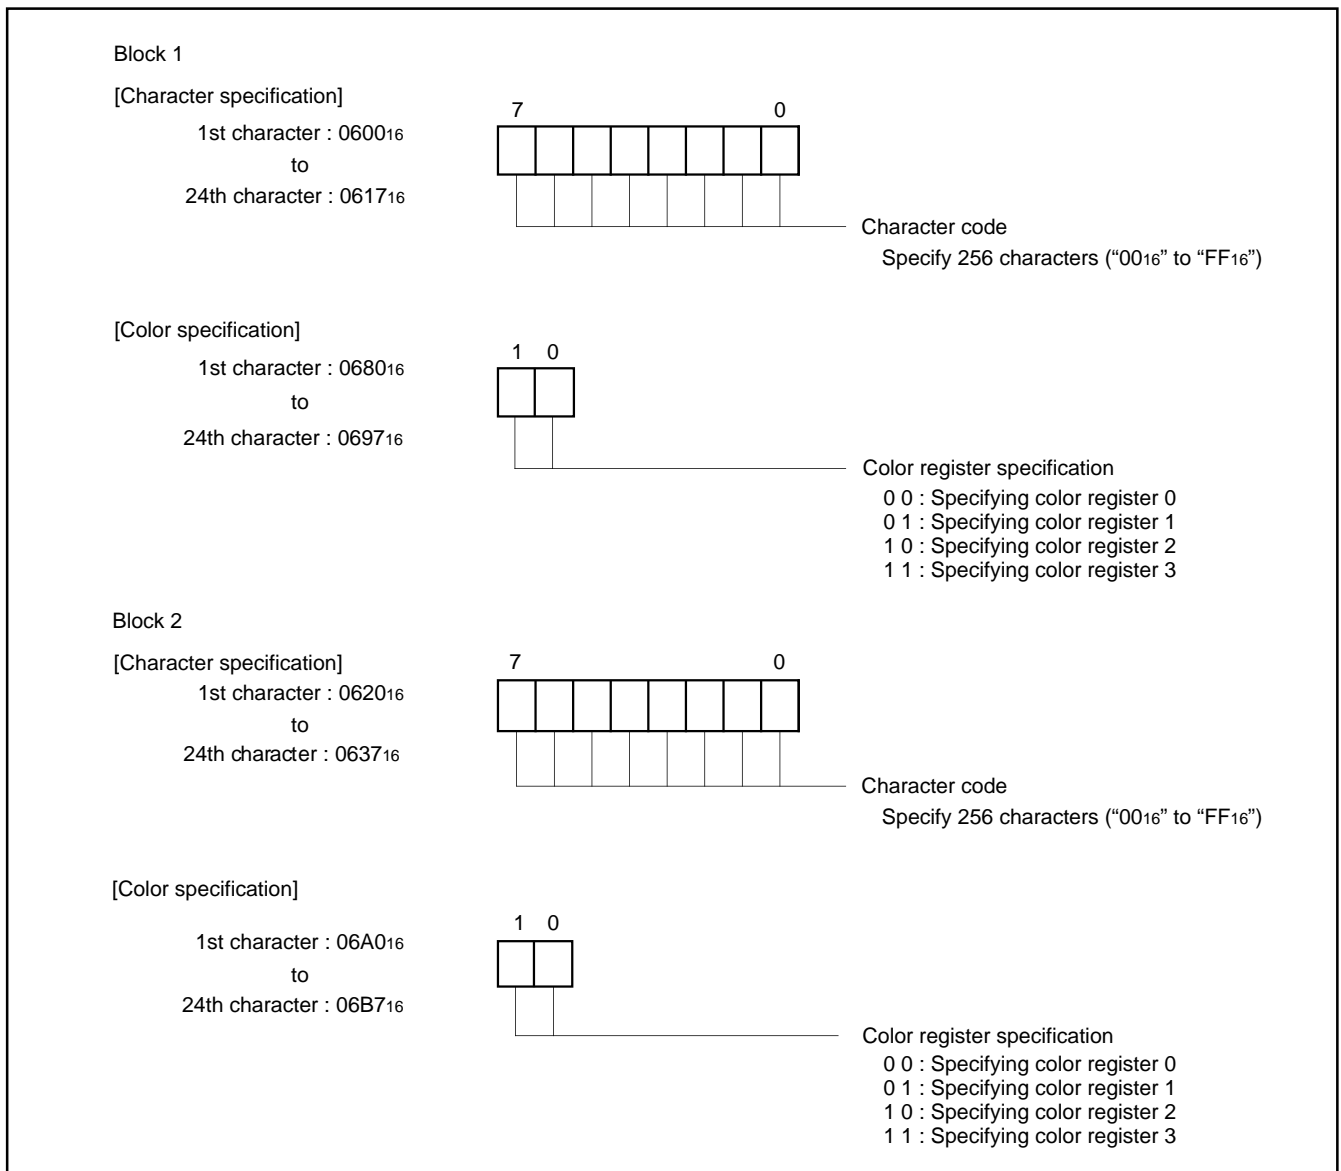

Fig. 41. Structure of CRT display RAM
For example, to display 1 character position (the left edge) in block 1, write the character code in address 0600₁₆ and write the color register No. to the low-order 2 bits (bits 0 and 1) in address 0680₁₆. The color register No. to be written here is one of the 4 color registers in which the color to be displayed is set in advance. For details on color registers, refer to (5) Color Registers. The structure of the CRT display RAM is shown in Figure 41.